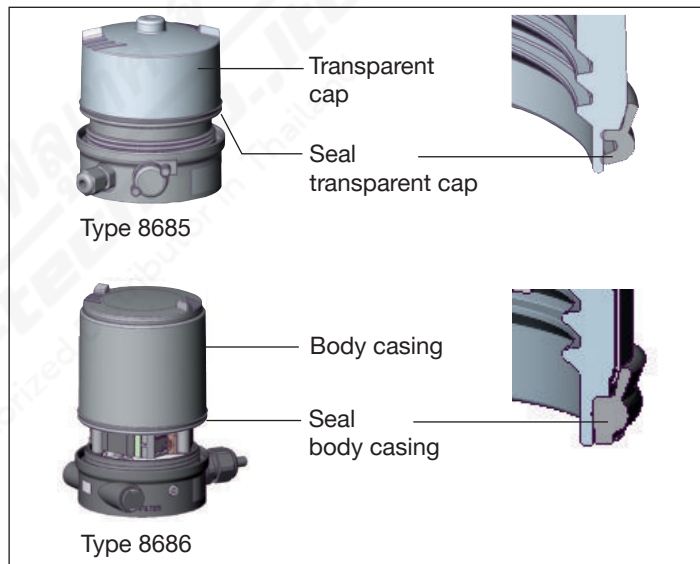

Fig. 32: Position of the seal in the transparent cap / body casing
- Check that the seal is correctly positioned in the transparent cap / body casing (see "Fig. 32").
- Check that the seal is correctly positioned in the transparent cap / body casing (see “Fig. 32”).